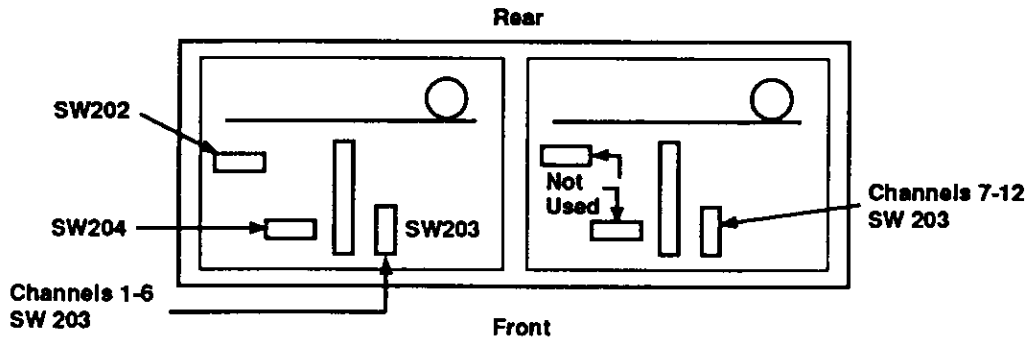

Figure 13 - Configuration Switches
3. At the lower panel PC-board locations shown in figure 13, open or close the related switch(es) to configure the D-120. Note that to modify the alert tone for all channels, you must change the condition of SW203 on both PC-boards.